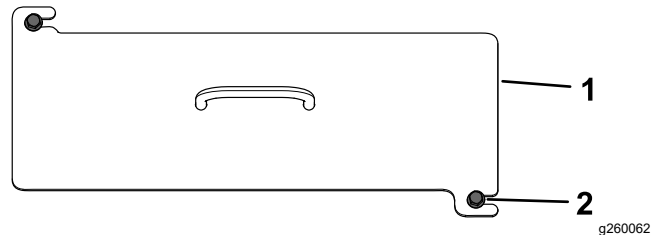

Figure 40
2. Loosen the 2 bolts securing the front cover to the machine (Figure 40).